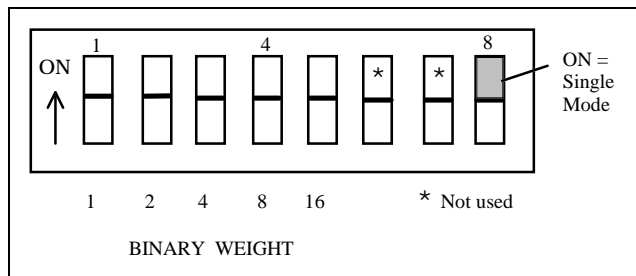

Figure 10 - SW4 DIP Switch Binary Weight Assignment
At the time of installation, the RIC address must be set to match the channel number of the associated repeater. This involves setting the eight section DIP switch SW4 to the binary number equivalent of the associated repeater channel number. The switch positions are arranged in binary digital weight. Therefore, the sum of the switch positions equals the channel number of the repeater selected. For example, if switches 1 & 3 were selected, the channel number selected would be 5. See Figure 10.
4. Locate SW4 on the left edge of the RIC board and set SW4 to the channel number under configuration (see Figure 10).